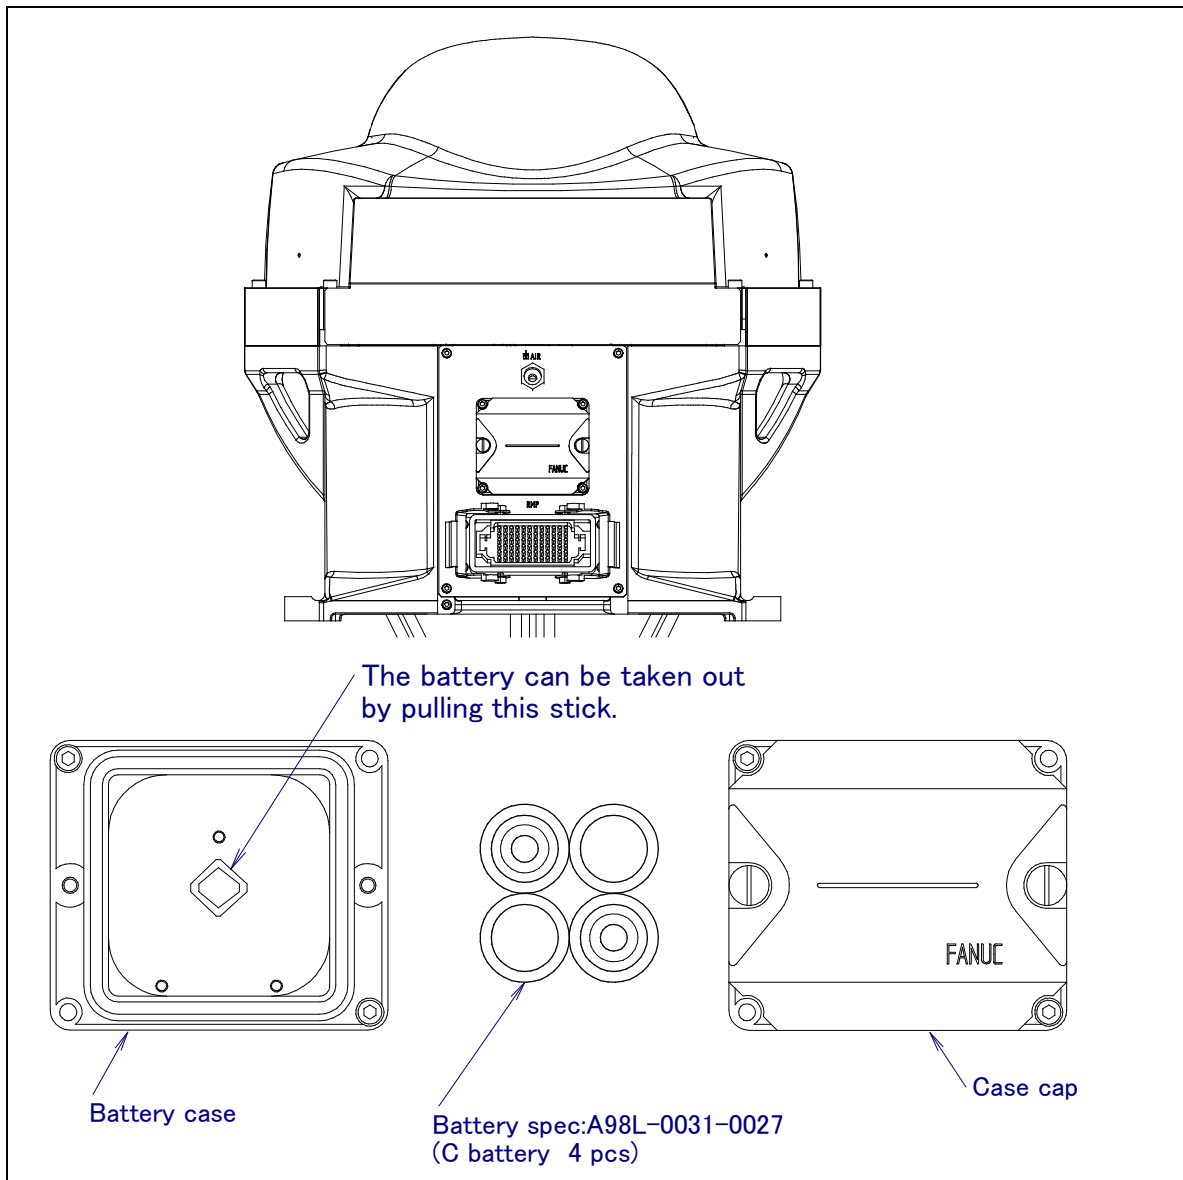

Fig. 6.2.1 (a) Replacing Batteries (with stand/no stand B)
- 2 Remove the battery case cap. (Fig.6.2.1 (a))